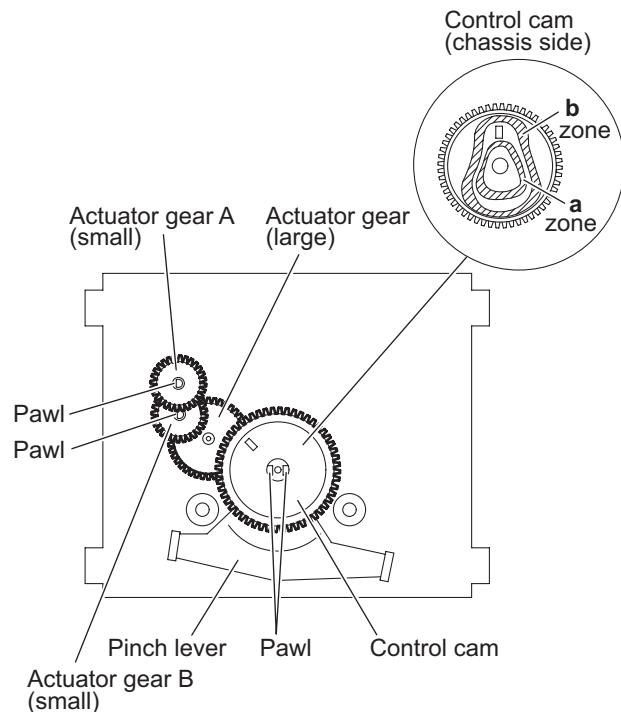

Fig.18
(Fig.18 and 19)
- (1) Release the control cam from two pawls. (Fig.18)
- (2) For assembling the control cam, fits **a** zone (groove) of control cam to a position of pinch lever and **b** zone (groove) to b position of head base shaft. (Fig.18 and 19)
(Fig.18)